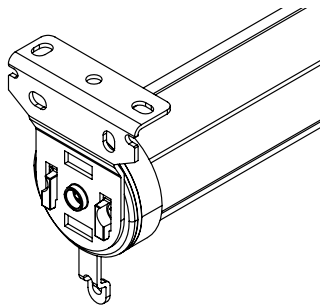

**Figure 9.** Insert the End Plug and Motor Assembly
**Step 7.** Insert the end plug (and tube adapter where required) and the motor assembly into the roller tube. Make sure to line up the tabs on the tube with channels on the driver and crown as shown in **Figure 9**.